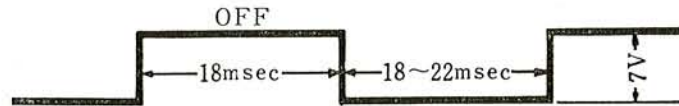

Fig. 35 Wave-form at TP202
- A. Connect an oscilloscope to TP202 (collector of Q-207) and after setting the Astable Multivibrator in free running condition (set the recorder in Record mode and remove the video signal input), adjust R233 (VR10K Ω) to obtain the OFF period of 18msec and ON period of 18msec to 22msec as shown in Fig. 35.